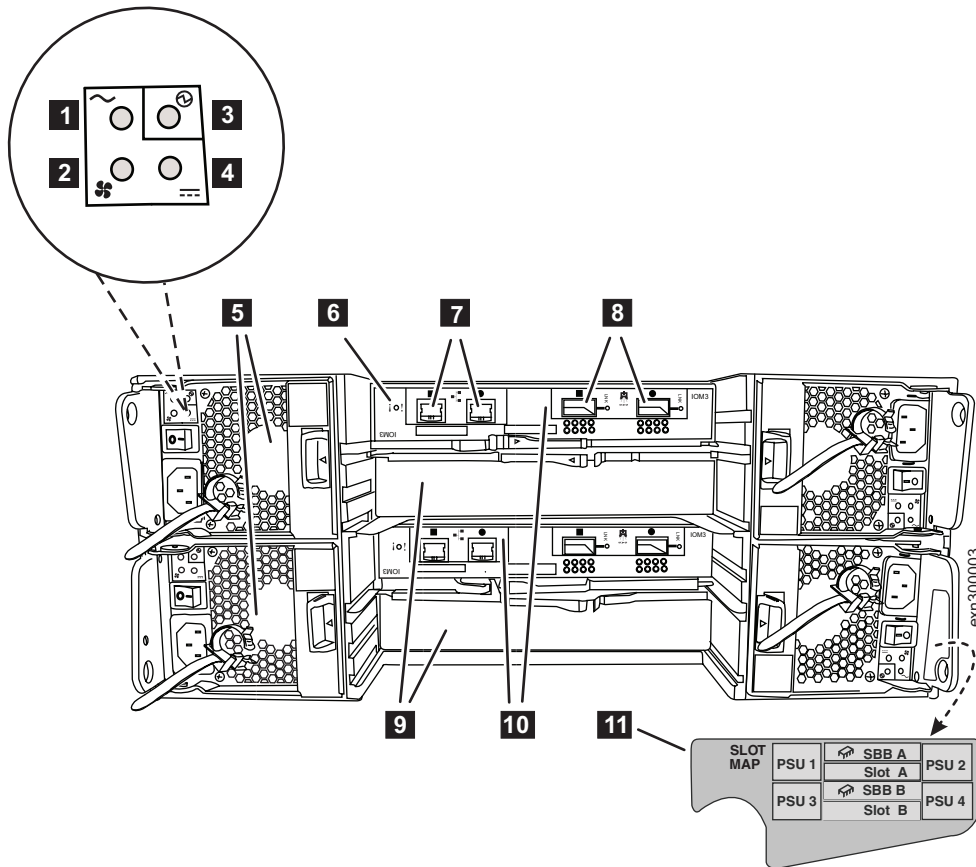

Figure 3. Rear view
- Disk shelves with two power supplies occupy the power supply unit (PSU1 and PSU4) locations as shown on the slot map label **11** in Figure 3 on page vii.